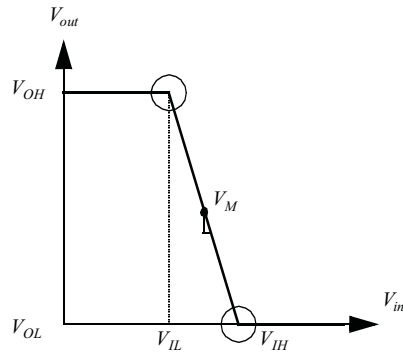

Figure 5.2 A different approach to derive V_{IL} and V_{IH} .
2. Figure 5.2 shows a piecewise linear approximation for the VTC. The transition region is approximated by a straight line with a slope equal to the inverter gain at V_M . The intersection of this line with the V_{OH} and the V_{OL} lines defines V_{IH} and V_{IL} .